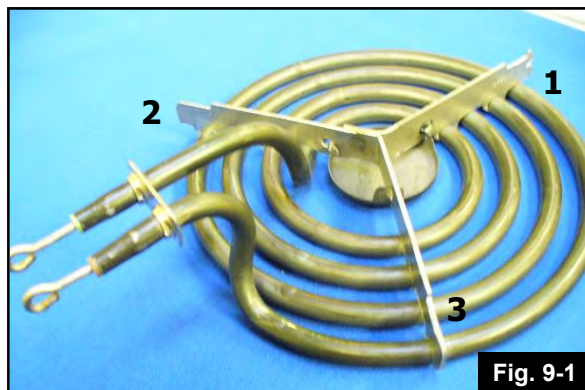

Fig. 9-1
1. The small element has 3 spider arms - 1, 2 & 3. Spider arms 2 and 3 have notched endings while spider arm 1 does not have a notched ending (Fig. 9-1).